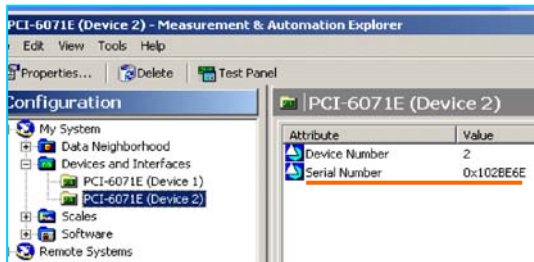

Figure. 1-7
1. Run the “Measurement and Automation” shortcut on the desk top. In the National Instruments driver, each “Device”(NI-DAQ board) is assigned a “Serial number” as seen in the Figure.1-7. On completion of this process, the serial number of each “Device” needs to be reversed.